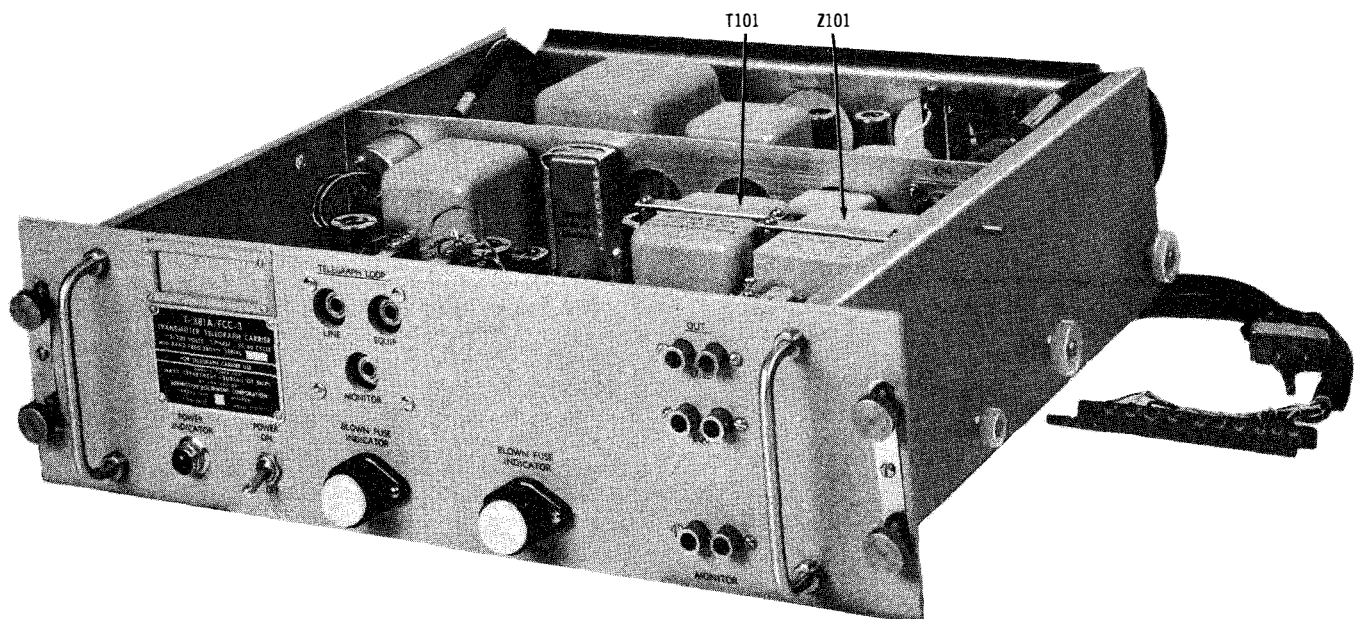

Figure 1-2. Telegraph Carrier Transmitters, Identification of
b. TELEGRAPH CARRIER TRANSMITTER. (See figure 1-2.) - This unit converts the DC telegraph
g. TRANSMITTER FILTERS. - (See figure 1-2.) A transmitter has one plug-in audio-frequency transformer and one plug-in transmitter band-pass filter as listed in table 1-5. Because of the identicalness, the center frequency of any transmitter may be changed by plugging in a different filter set. A readjustment of the BIAS CONTROL R104, as described in Section 4, may be required for proper performance after a set of filters is changed.